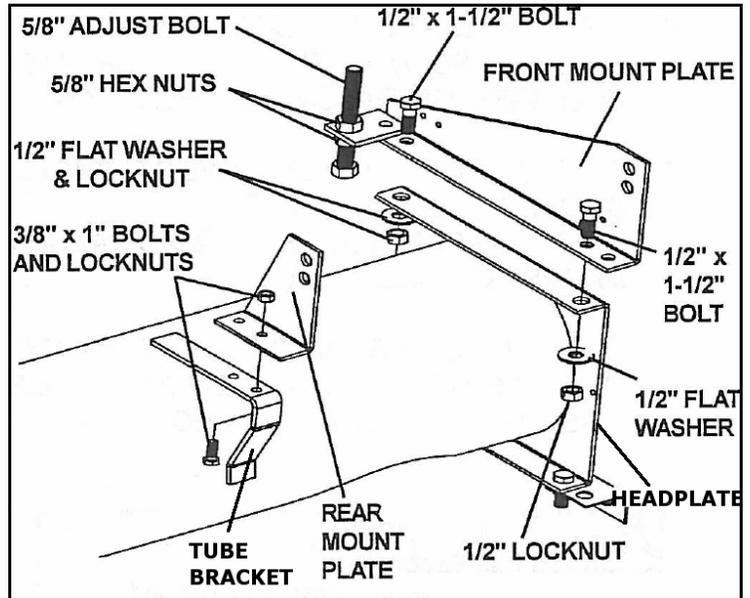

Figure 3.8
1. Attach front mount plate onto head plate using two 1/2" x 1-1/2" bolts, locknuts, and 1/2" flat washers as shown in Figure 3.8. Tighten securely.
2. Place 5/8" adjust bolt through available hole in front mount plate and secure in place using two 5/8" hex nuts (1 top, 1 bottom). Leave adjust bolt loose to allow for later adjustment (Figure 3.8).
3. Assemble rear mount plate onto tube bracket as shown in Figure 3.8 with two 3/8" x 1" bolts and locknuts; tighten securely.